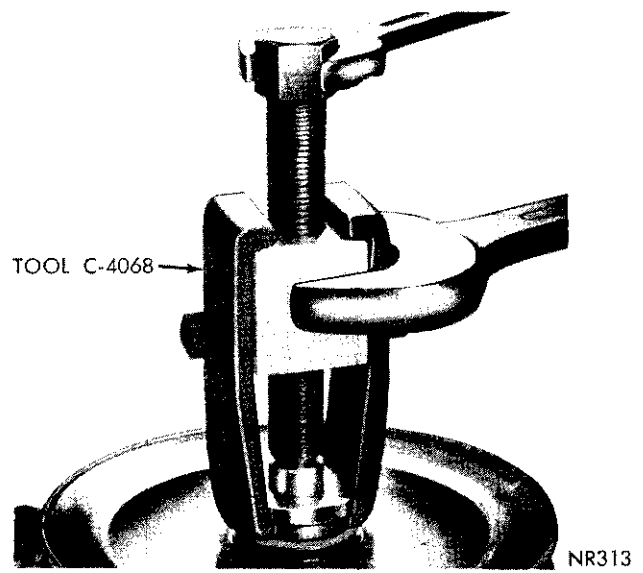

Fig. 20—Removing Drive Pulley (1.06 Pump) or score marks that would allow oil to by-pass outer seal surface.
- (1) Remove pump from engine. Drain reservoir and clean exterior before servicing.
- (2) Clamp pump in vise securely at mounting bracket.
- (3) Remove pulley with Tool C-4068 (Fig. 20).
- (4) Position seal remover adapter SP-5323A over end of drive shaft with large opening toward pump.
- (2) Clamp pump securely in vise at mounting bracket.
- (4) Remove oil seal as described in "Oil Seal Replacement" section.
- (5) Remove pump from vise and remove three mounting bracket bolts, remove bracket.
- (6) Remove reservoir and place pump in vise with shaft down (use vise with soft protective jaws). Discard mounting bolt and reservoir "O" rings.